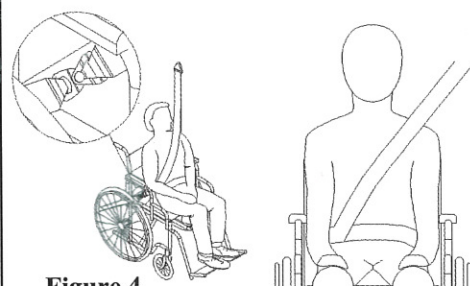

Figure 4
- SEE FIGURE 4 FOR PROPER PLACEMENT